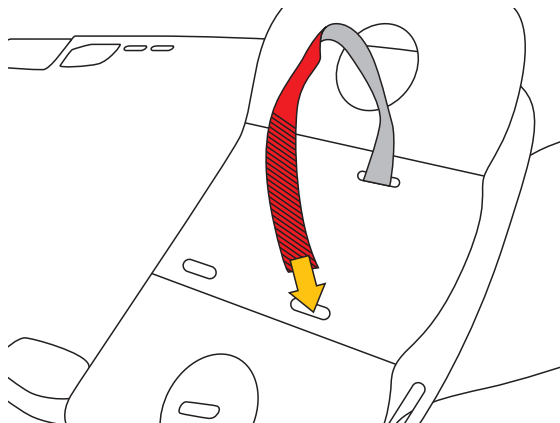

Fig.9
a) Insert the Velcro straps into the slots of the head immobiliser and spinal board (fig. 9).